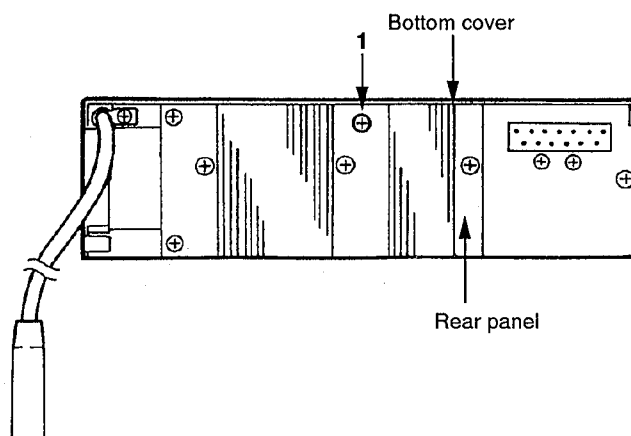

Fig. 6 – 1
■ Removal of nose piece assembly (Fig. 6 – 2)